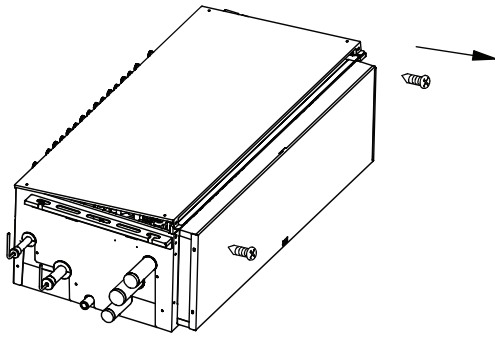

Fig. 16 — Removing the Top Cover Screws
1. Remove the screws as shown in Fig. 16.